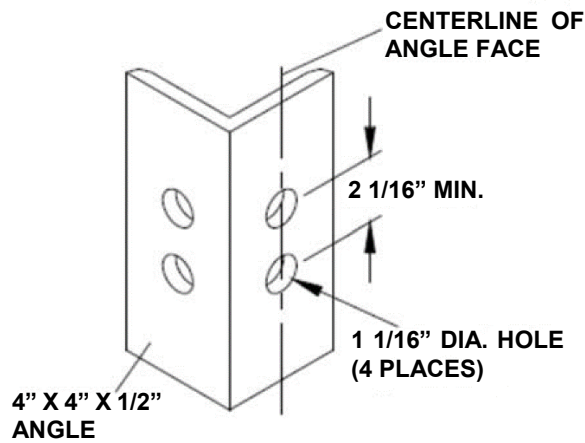

Figure 11
- Start by cutting two (2) 4" x 4" x 1/2" steel angle the height of the C channel.
- Measure and mark the angle for four (4) 1-1/16" holes (Figure 11). The spacing needs to be equal distances vertical and horizontal. Make sure the holes are spaced at least 2-1/16" apart.